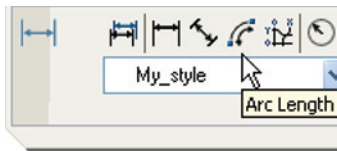

Fig. 6.17 The **Arc Length** tool in the **Dimensions** control pane
2. Call the **Arc Length** tool with a *click* on its tool icon in the **Dimensions** control panel (Fig. 6.17), or with a *click* on **Arc Length** in the **Dimension** toolbar, or by *entering* **dimarc** at the command line. The command line shows: